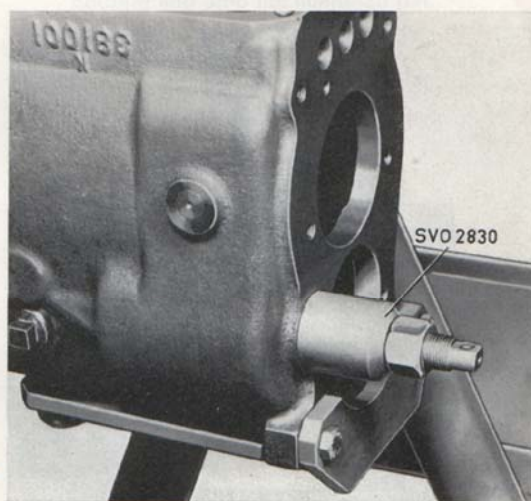

Fig. 4-8. Removing the reverse shaft
10. Pull out the reverse shaft with puller SVO 2830, see Fig. 4-8, and take out the reverse gear.